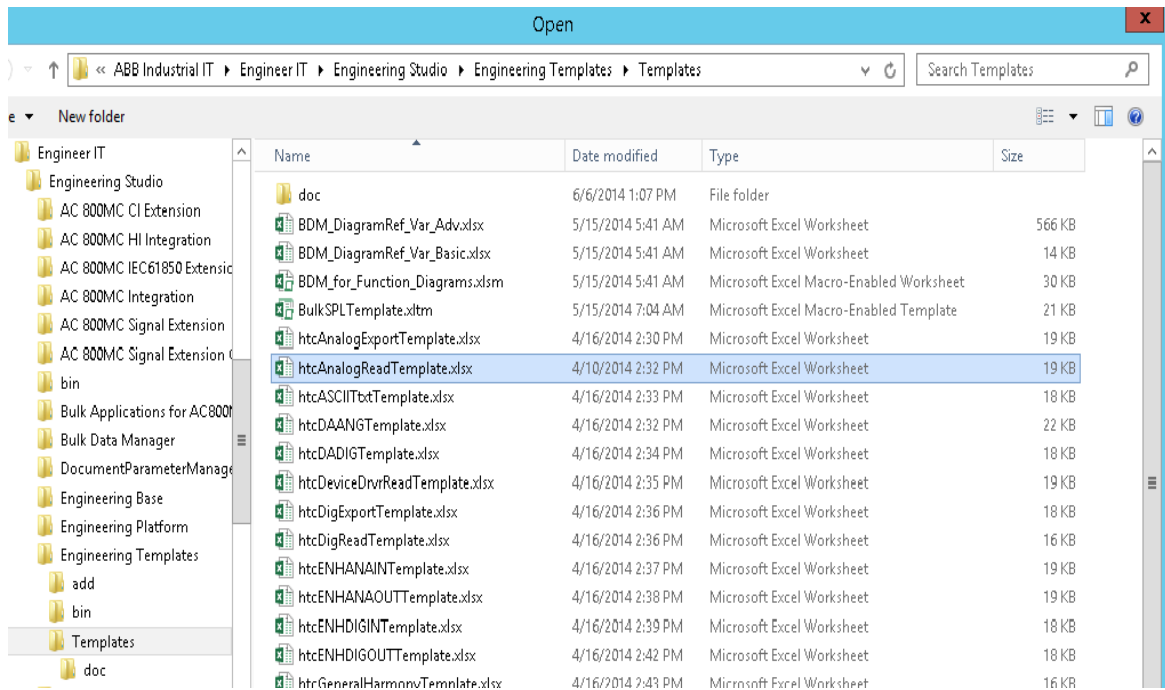

Figure 48. Windows File Explorer Window
1. Select Engineering Templates from the Advanced context menu in the Engineering Workplace. This will launch a Windows File Explorer window open to the Engineering Templates folder as shown in Figure 48.